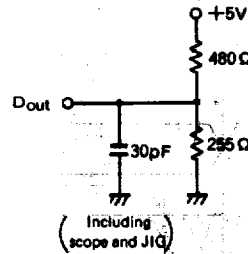
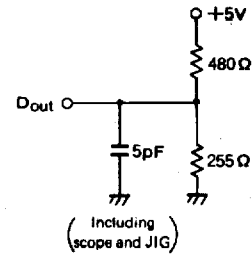

Fig. 1 Output load
Fig. 2 Output load for  $t_{sn}$   $t_{dis}$
- Output loads . . . . . Fig. 1, Fig. 2